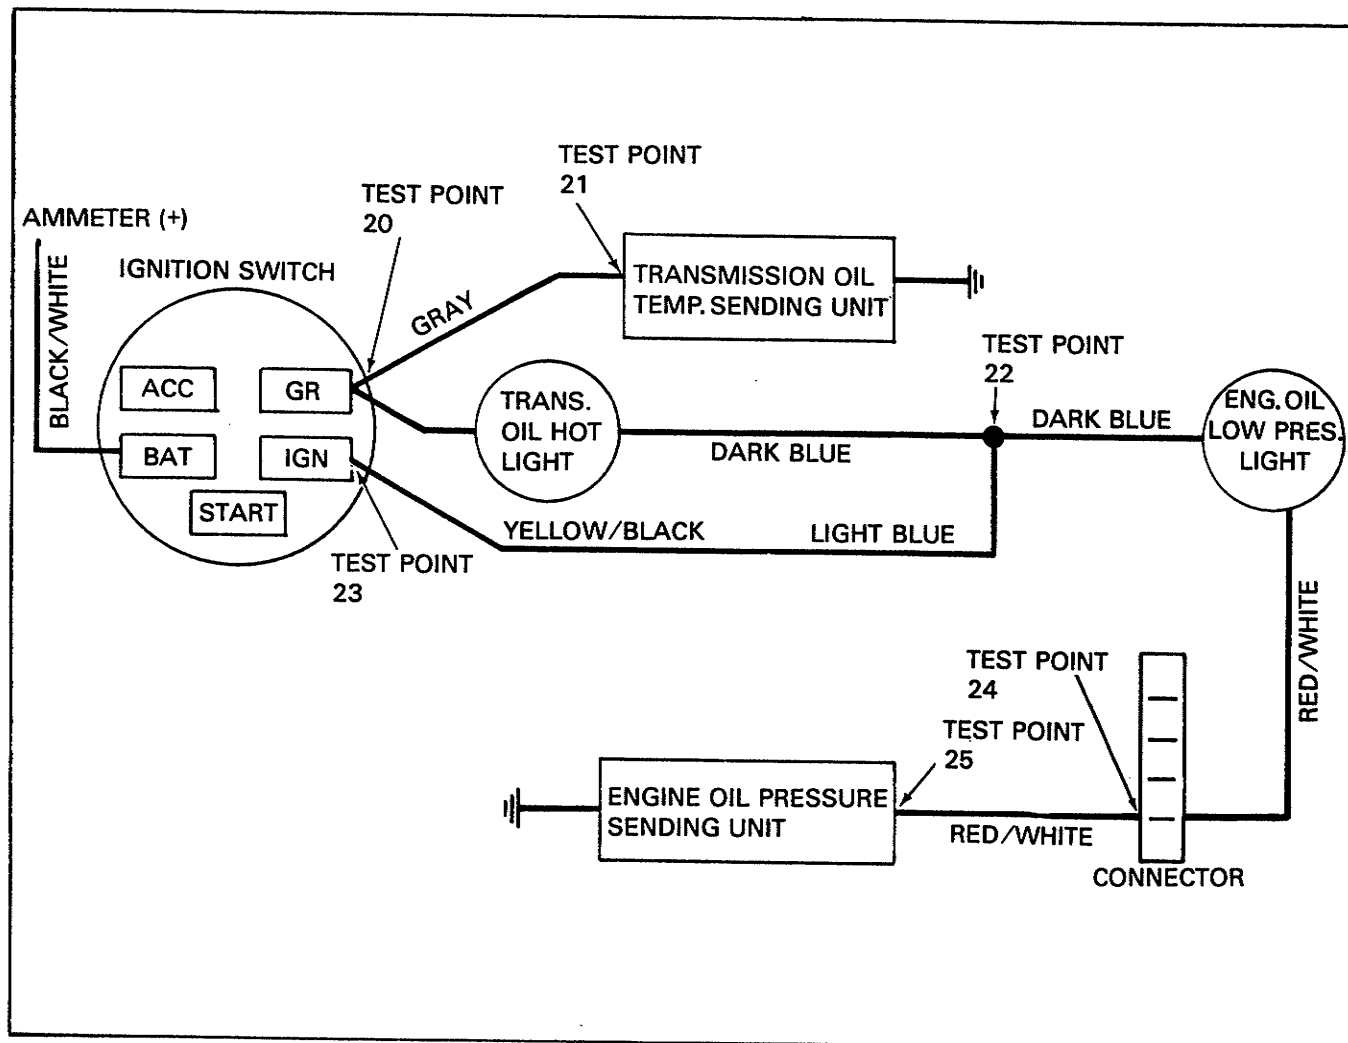

Figure 84. Sending Unit Circuit
## PRESSURE AND TEMPERATURE SENDING UNIT CIRCUIT (Figure 84)
Make sure the circuit is wired correctly and all connections are clean and tight. Refer to Figure 84, Sending Unit Circuit.
**Wiring Circuit Check (Figure 84)**